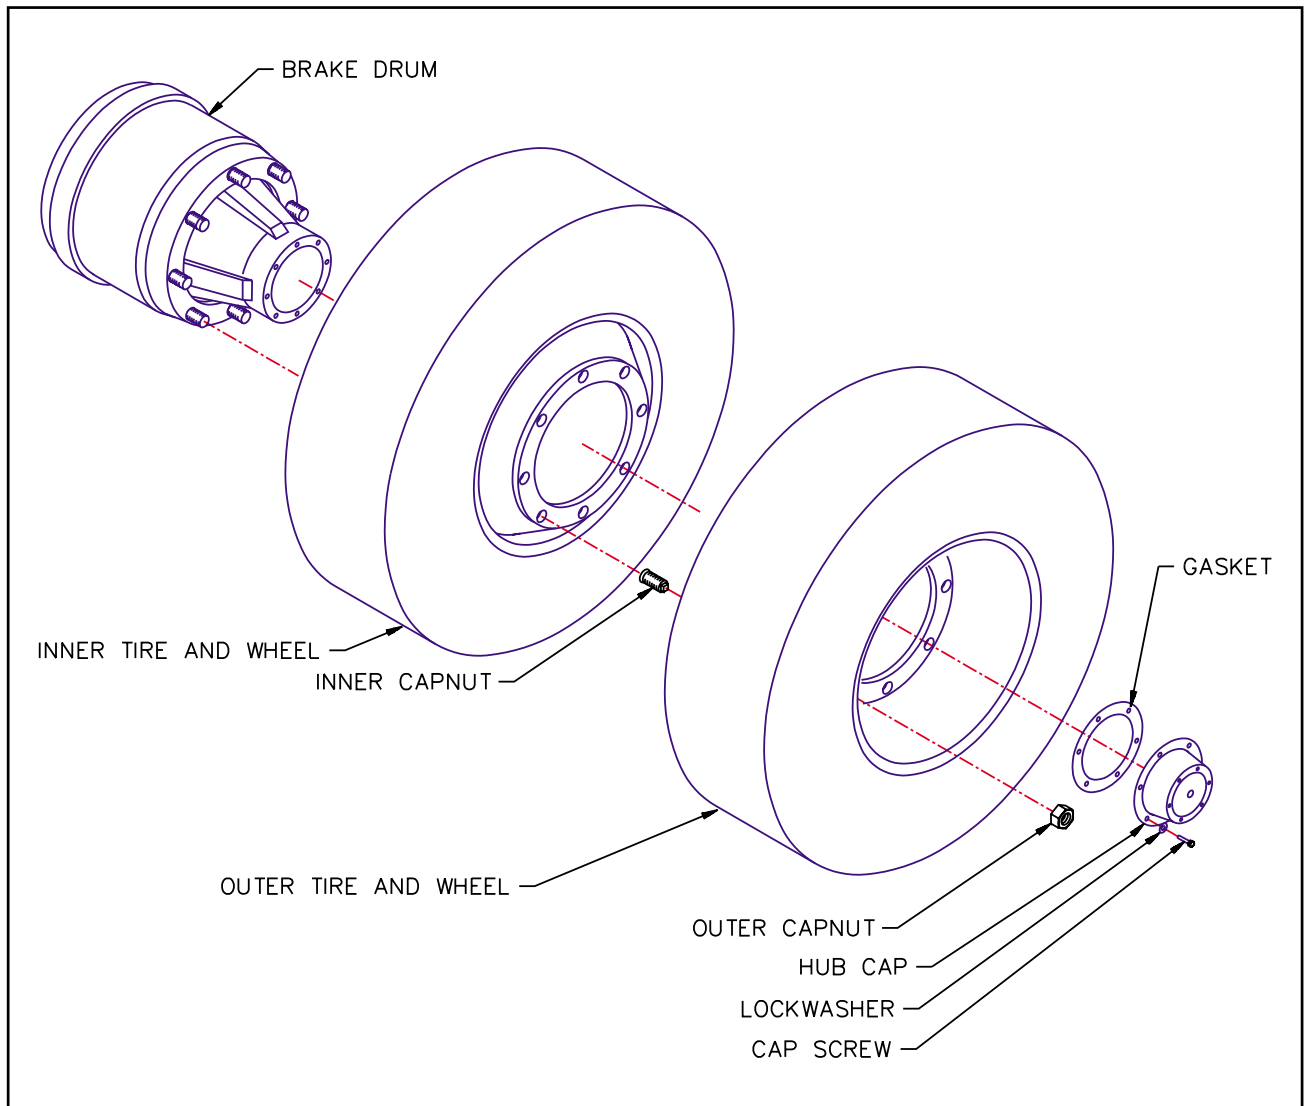

Figure 4-19 Mounting Tires and Wheels
- b. Position the inner disc wheel over the studs, being careful not to damage the stud threads. Make sure that the disc wheel is flat against the mounting surface and that there is clearance between the disc wheel taper and brake drum (See Figure 4-19).